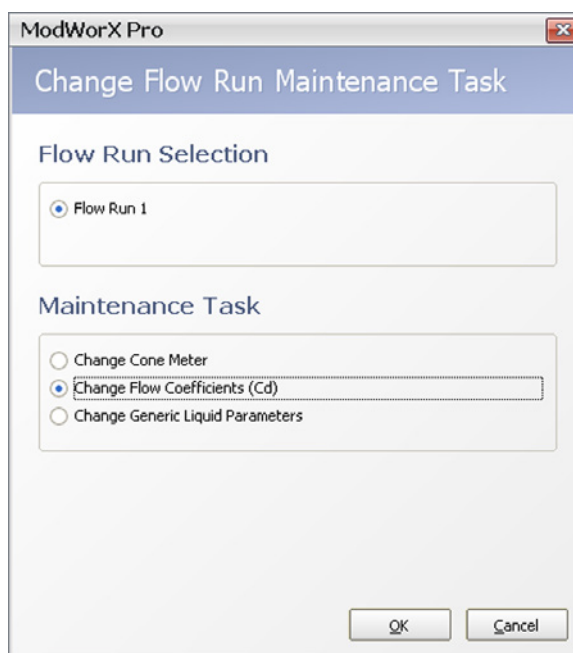

Figure 10.16
1. If Change Generic Liquid Parameters is not displayed in the Maintenance Task field at the top of the Maintain Flow Run screen, click on **Change Task**. The Change Flow Run Maintenance Task dialog will appear (Figure 10.16).